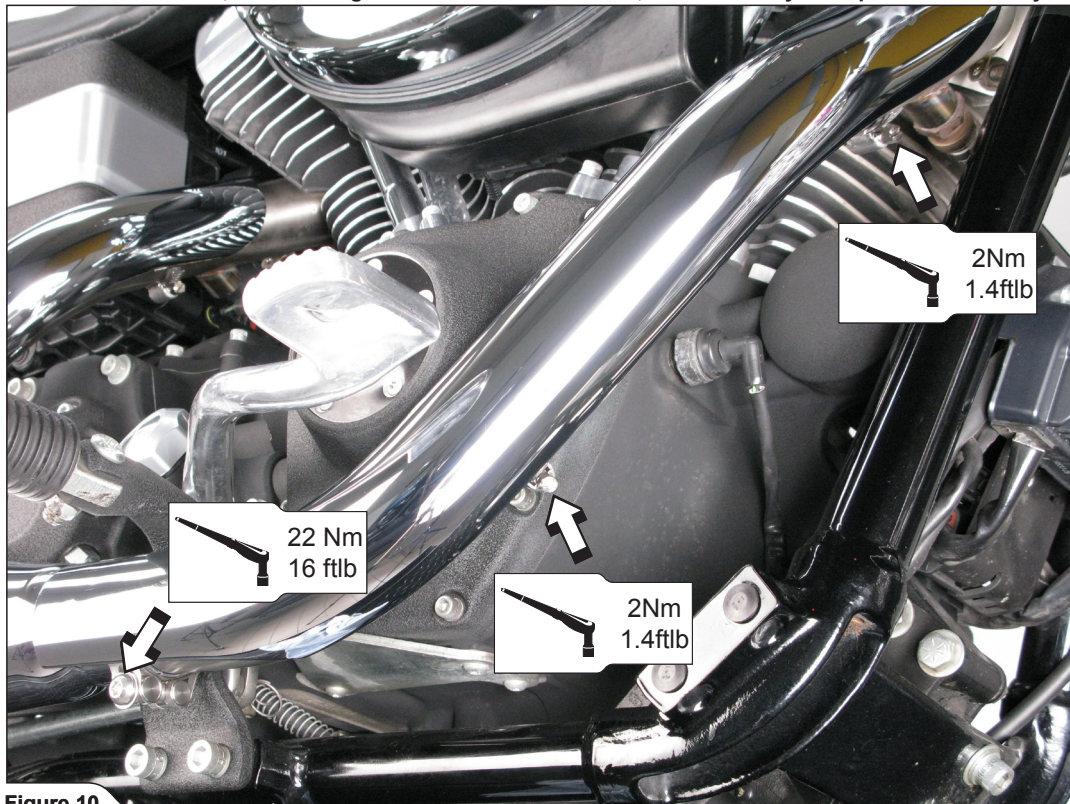

Figure 10
9. Correctly attach both heat shields onto the headers, align them in respect to the pipes, mufflers and tighten the tape clamps and clamps at the header - muffler joints to the specified torques (**Figure 10, 11**).